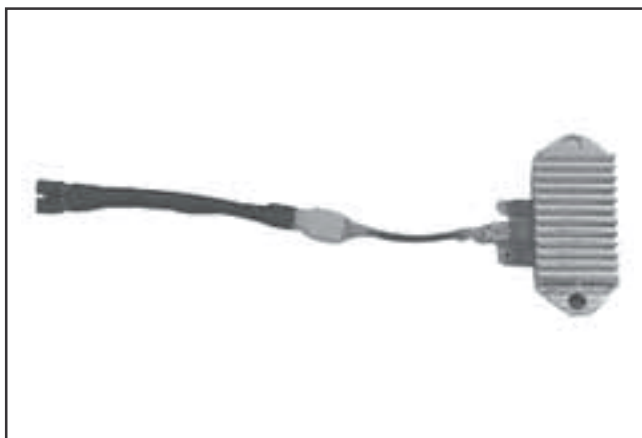

Figure 7-10. Connected Adapter.
1. Connect the single lead adapter in between the B+ (center) terminal of rectifier-regulator being tested and the squared single end of the tandem adapter lead. See Figure 7-10.